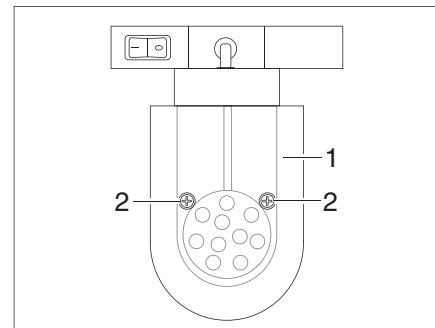

Fig. 197 LED spotlight (movable)
- ▶ Loosen the fixing screws (Fig. 197,2).
- ▶ Remove the lamp glass cover (Fig. 197,1) carefully.